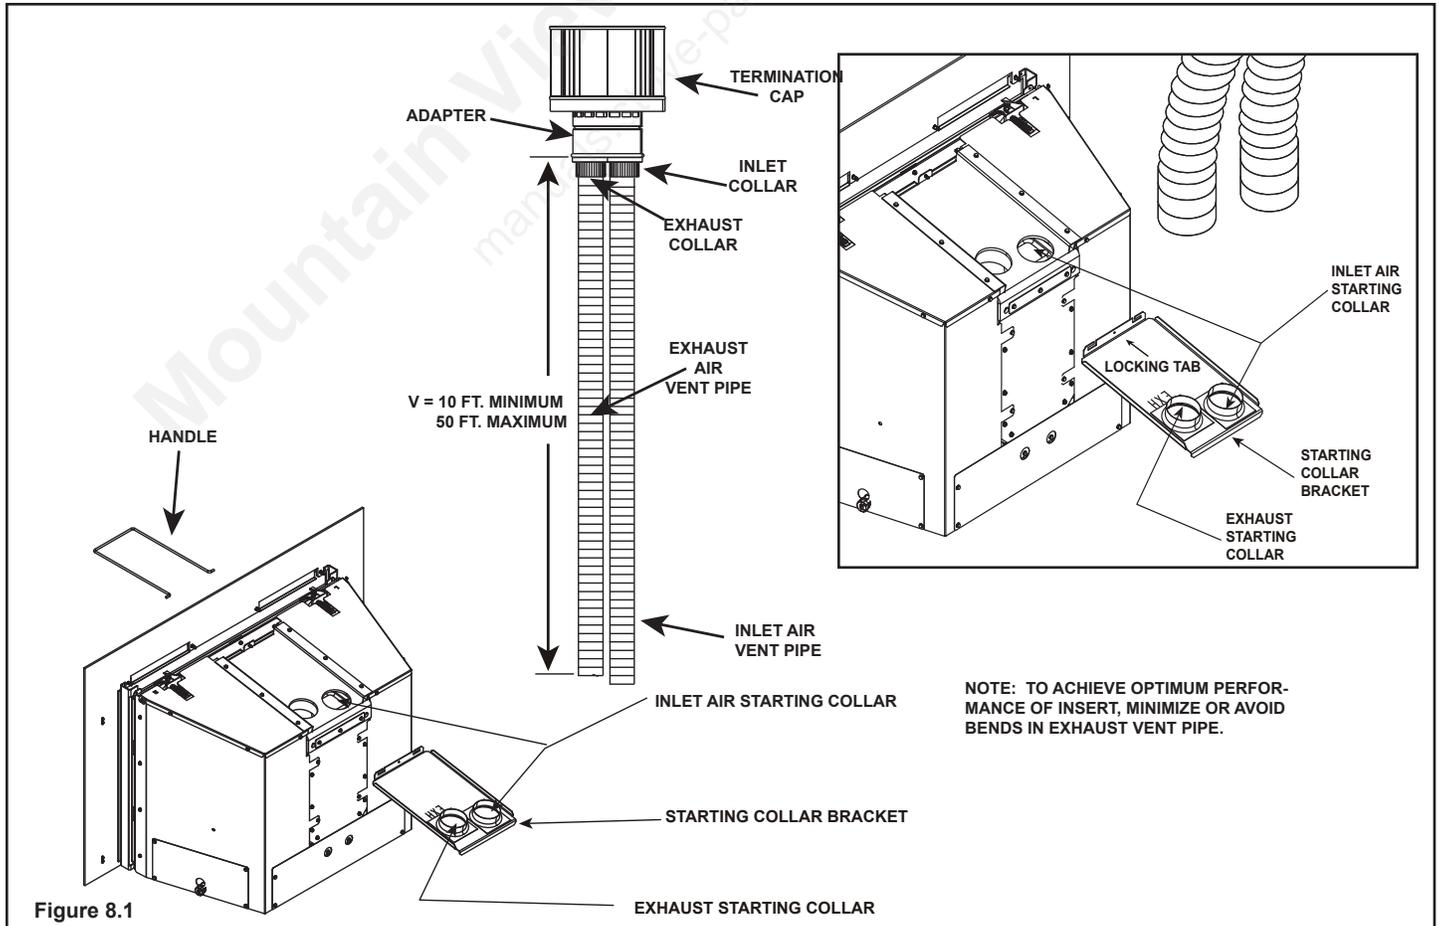

Figure 8.1
- Secure the exhaust flexible vent pipe to the 3 foot section stainless steel flexible vent pipe using the factory-installed 3-inch collar in the stainless steel section of pipe (see Figure 8.1).
- Use 3 screws to attach the section of inlet air vent to the inlet collar on the collar slide plate and seal with stove cement rated for continuous exposure to 1200°F or higher. See Figure 8.1. NOTE: The collar slide plate may be removed from appliance to aid installation.
- Secure collar slide plate to appliance by placing locking handle into position with locking tabs (see Figure 8.1) and secure with #8 screw.